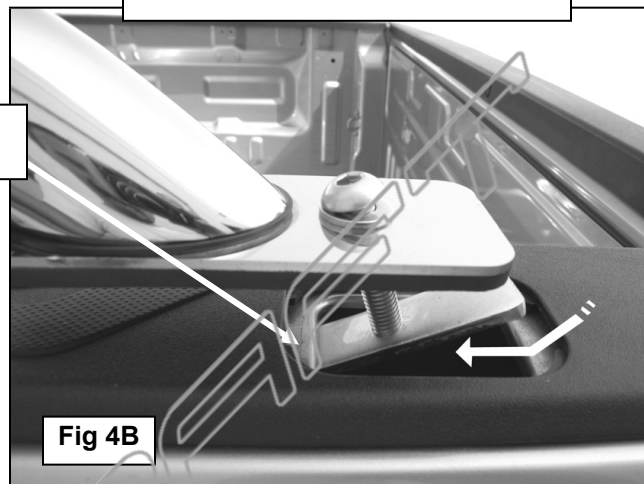

Fig 4B
3. Attach (1) 10mm Bolt, (1) 10mm Flat Washer, and (1) Threaded Plate to each end of Bed Rail as shown in **Figure 3**. **NOTE:** Depending upon your vehicle, use the correct size Threaded Plate. For small stake pockets, use the parallelogram-shaped plate, **(Figure 4A)**. For larger stake pockets, use the rectangular-shaped plate, **(Figure 4B)**. Leave hardware loose.